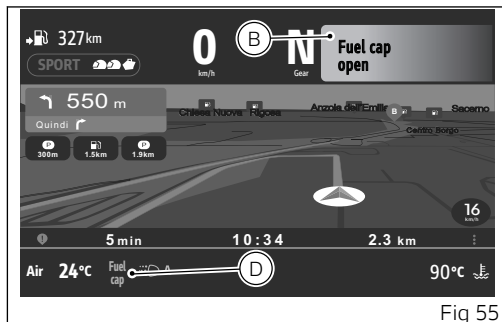

Fig 55
- then it is displayed in the small format (D Ducati Connect screen Fig 55).